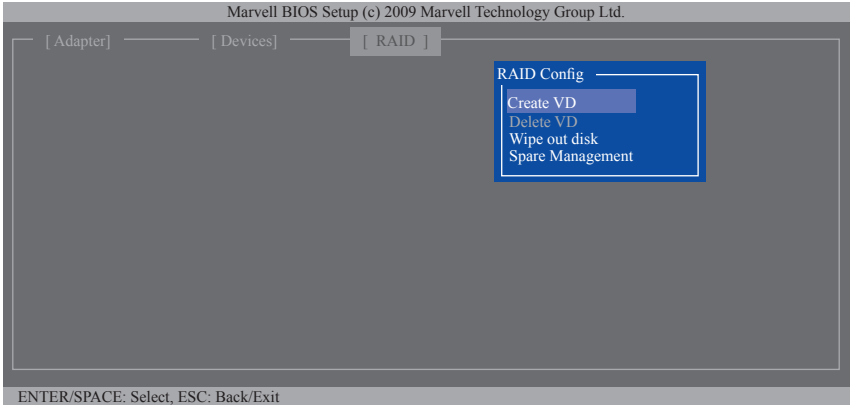

Figure 5
Step 1: On the main screen, press <Enter> on the **RAID** tab. Then the **RAID Config** menu appears (Figure 5). Press <Enter> on the **Create VD** item.